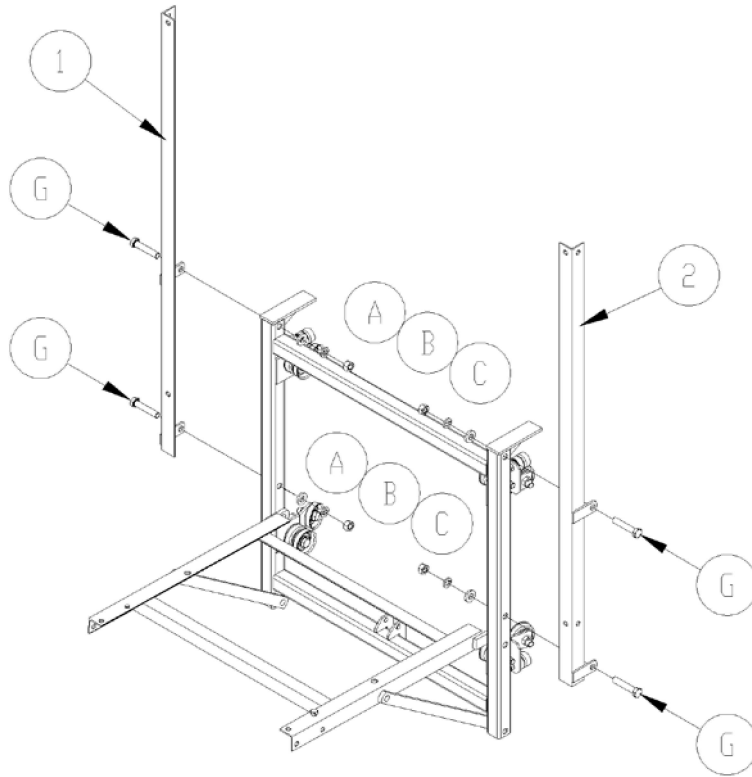

Figure 1
2. Mount the frame angles (1 & 2) onto the carriage of the Pivoting Platform with hardware as shown in Figure 1. Finger-tighten the hardware, do not fully tighten.